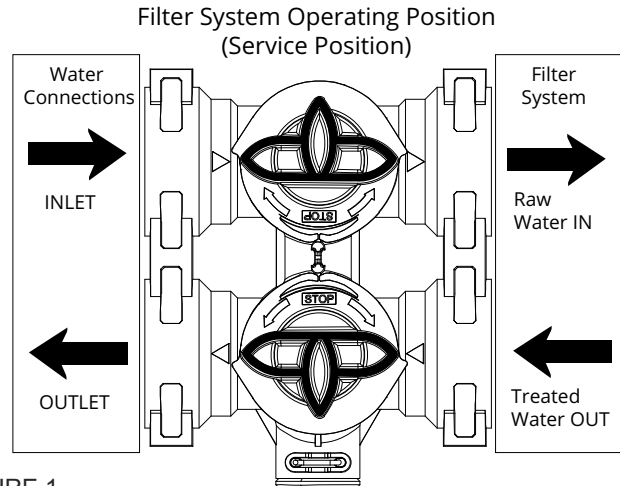

FIGURE 1
2. Slowly turn the Multi-Function Valve top handle into the Operating Position. (See Figure 1 on page 10.) Turn Flush Valve Options a. / b. to open positions.
9. With tubing connected to equipment. Turn Multi-Function Valve to the Operating Position (See Figure 1 on page 10) and open Scale Reduction Outlet ball valve and check for leaks.
7. On Multi-Function Valve Turn Upper Handle to the Operation Position. (See figure 1 on page 10)